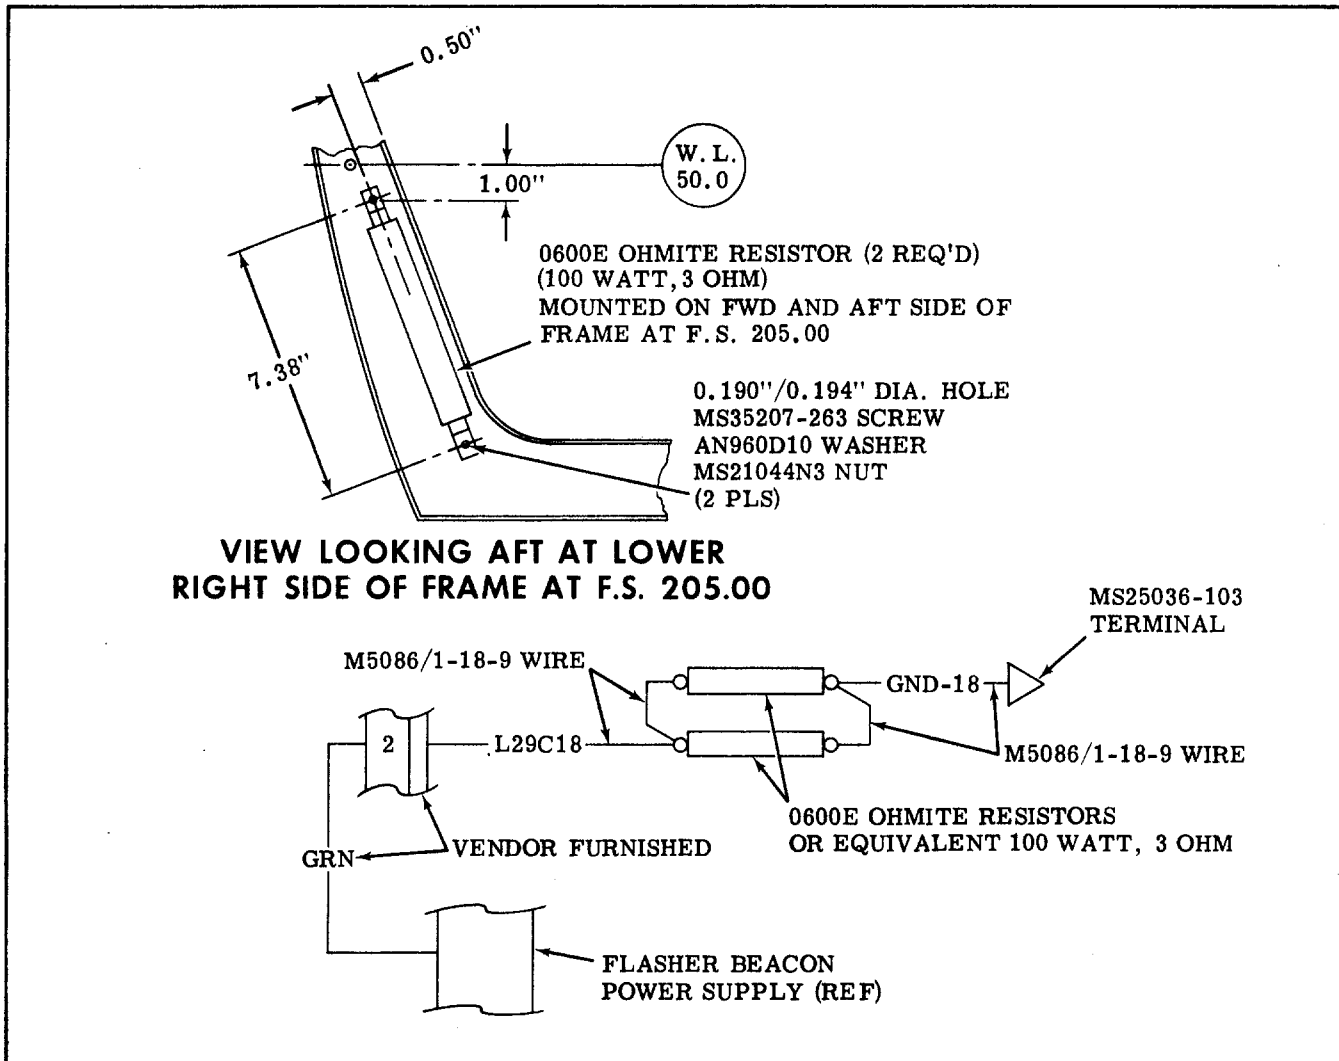

Figure 1.
4. Locate, drill and install 0600E Ohmite resistor (or equivalent 3 Ohm, 100 Watt resistor) on fuselage frame (see Figure 1.).
5. Connect resistors installed in Step 4. to airplane electrical system (see Figure 1.).